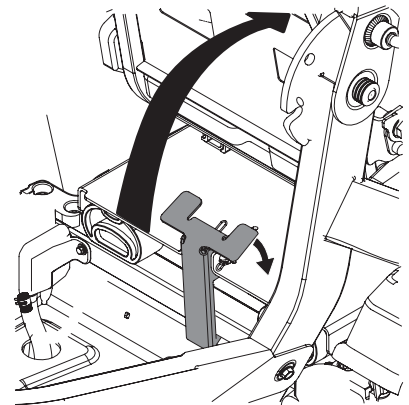

Figure 21
3. Remove the hex washer screw (a) securing the battery hold down rod (b) to the frame. Then flip the battery hold down rod (b) up to free the battery. See Figure 21.
4. Rotate the entire seat pan upward. See Figure 21.